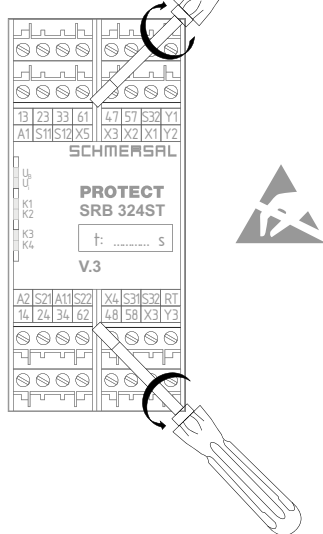

Fig. 2
Opening the front cover (see Fig. 2)
- Button S1 is located underneath the front cover of the safety-monitoring module (see Fig. 2 and 3).